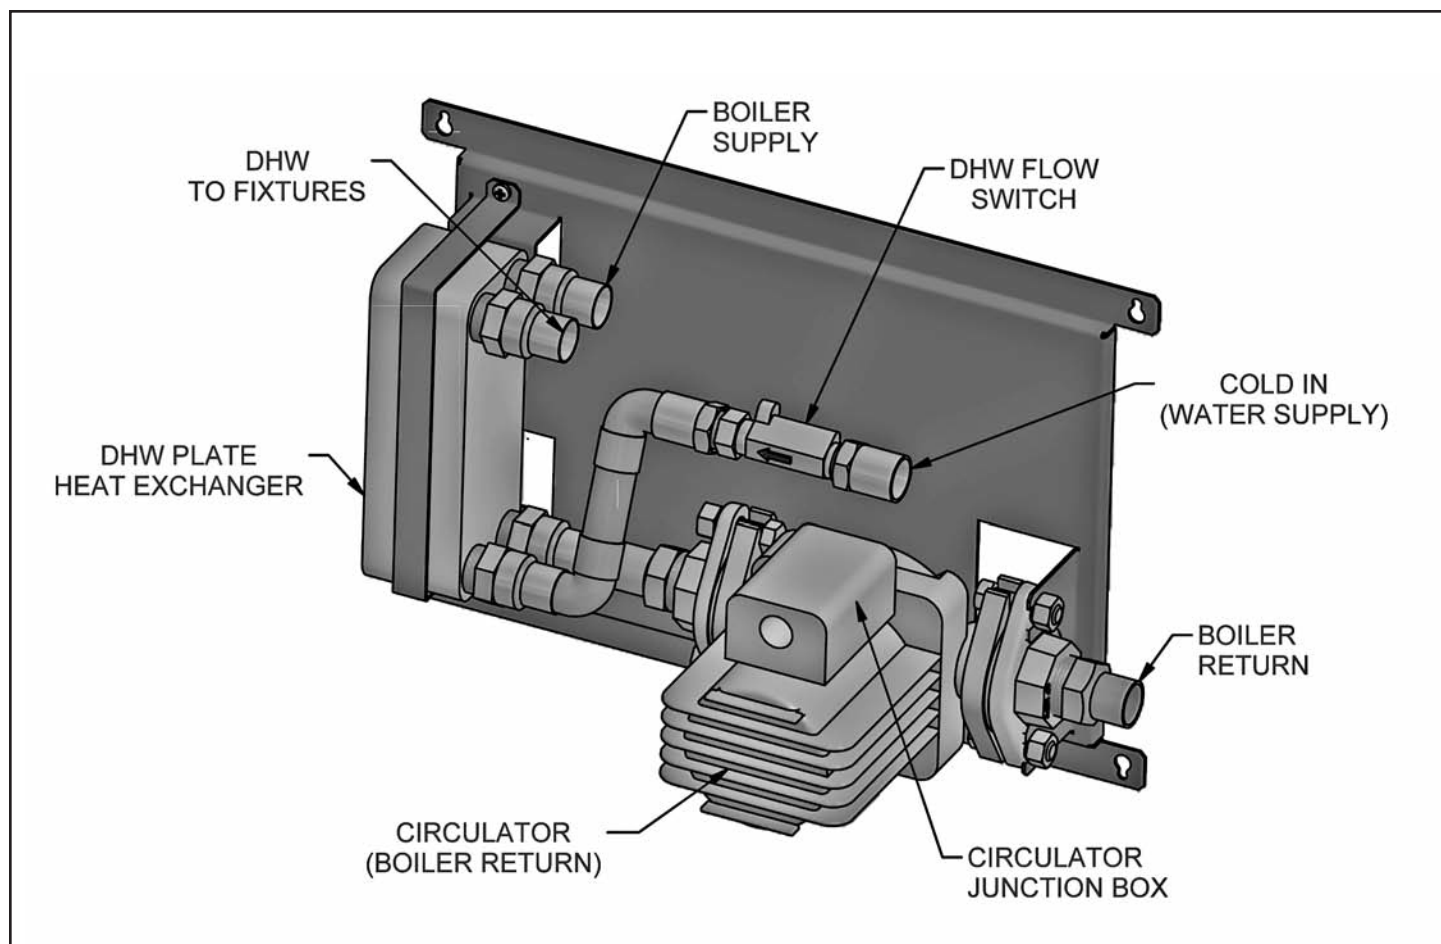

Figure 1. Components and piping of DHWG.
1. See Figure 1 for the identification and location of each component and piping connection provided in the DHWG system.